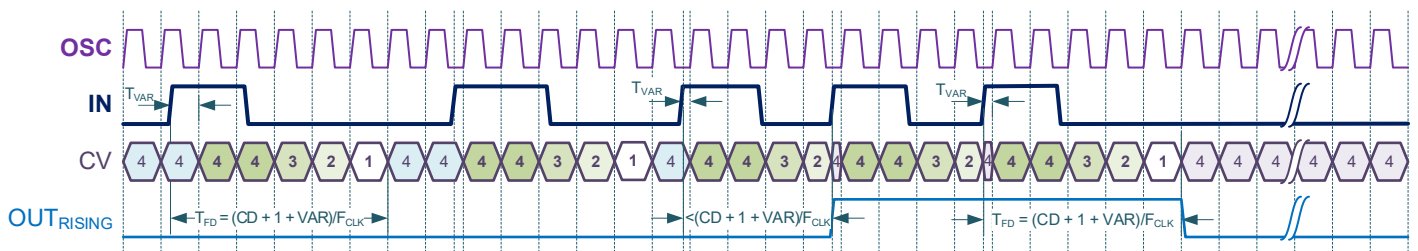

Figure 9.19. Frequency Detector Mode Timing Diagram (Rising Edge, Forced OSC)
The timing diagrams of the Frequency Detector Mode is shown in the Figure 9.19...Figure 9.24.
- Frequency Detector (Figure 9.19...Figure 9.24)